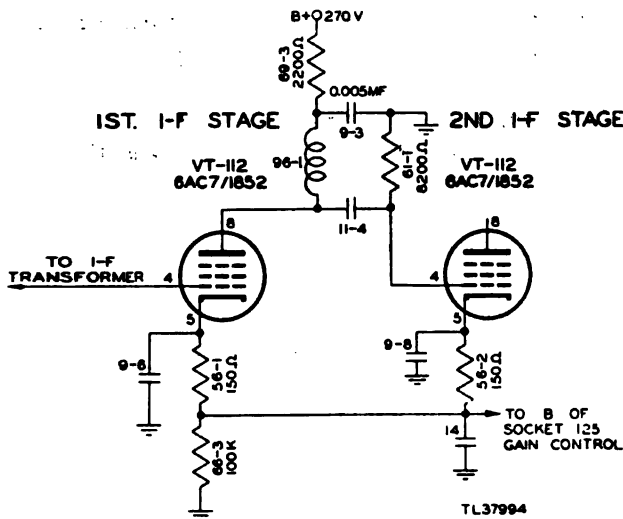

Figure 32. I-f transformer, partial schematic.
b. BROAD BAND PASS. The partial schematic of figure 32 shows the tuned inductance 96-1, the two capacitors 9-3 and 11-4, and the resistor 61-1